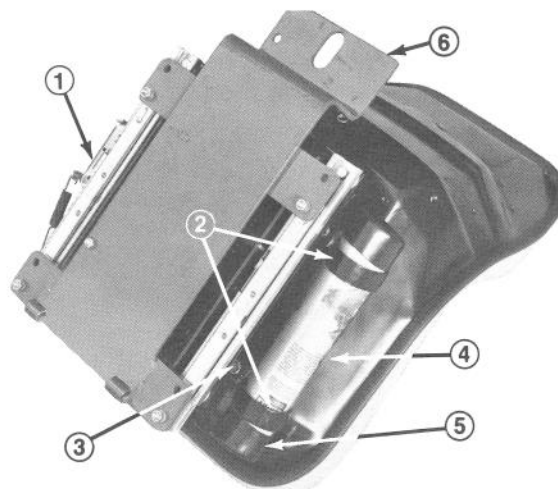

Figure 11
6. Assemble seat suspension assembly to four capscrews on seat bottom and install a lockwasher and flatwasher at all four locations. Install an R-clamp over right front and right rear capscrews of seat and install and tighten nuts to secure all four locations (Fig. 11). Install manual tube into R-
clamps, insert manual into tube and place cap over tube end (Fig. 11).
7. Mount seat support over four threaded studs at the bottom of seat suspension assembly and secure in place with lockwashers and nuts (Fig. 11).